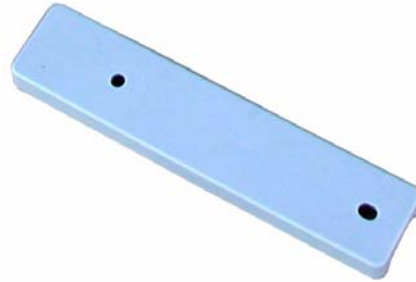

Figure 8: Radio assembly mounting adapter
**Radio mounting adapter** The mounting adapter shown in Figure 8 is used for both radio types to mount the radio assembly on the feed support tube.